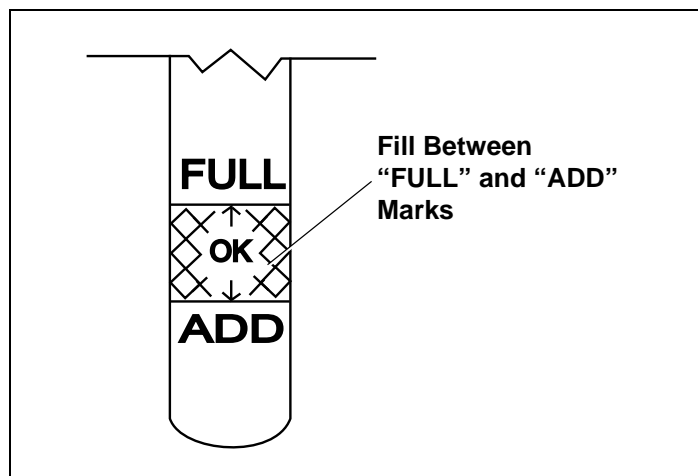

Figure 7. Engine Oil Level
- Keep oil level between "FULL" and "ADD" marks on oil fill cap/dipstick or to point of overflow on engines with an oil fill cap/plug. See Figure 7.
4. Unscrew and remove oil fill cap/dipstick from oil filler tube. Note oil level. If oil reading on dipstick is below "ADD" mark, slowly add oil to reach "FULL" level. See Figure 7 on page 4. Afterward, continue reading instructions below.